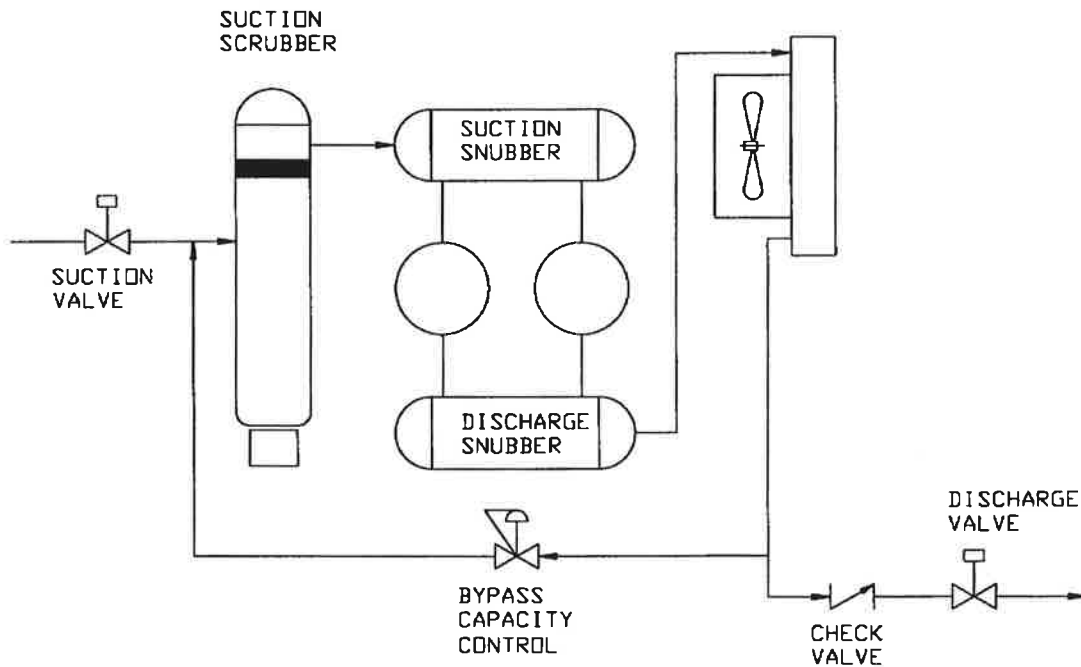

Figure 3-1. Bypass Capacity Control
1. A unit bypass system may be used to control capacity, particularly when the unit is oversized, or when the suction pressure is not stable and has a tendency to fall below a desirable limit. This method utilizes a pressure control valve in the bypass system around the unit, set to operate at the minimum operating point for the compressor. When this method is used, it is important that the bypass gas stream be taken downstream of a process aftercooler. This will avoid an uncontrolled temperature rise during continuous operation. Figure 3-1 illustrates.